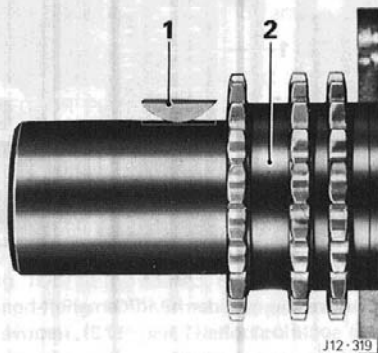

Fig. 181
Remove the crankshaft damper woodruff key (1, Fig. 181) and spacer.
Remove the crankshaft sprocket (2, Fig. 181) and inner woodruff key.